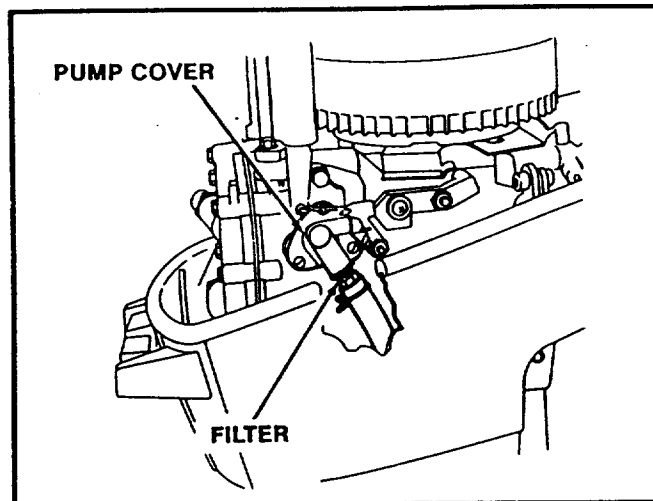

FIGURE 22
- Remove fuel line from pump. (Figure 22)